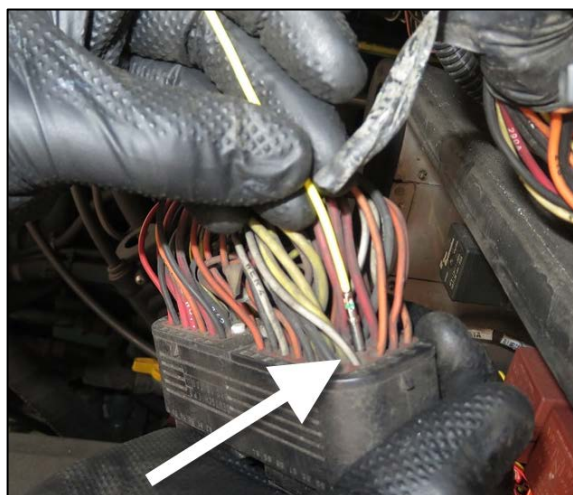

Figure 29
54. Install the extended spare wire to female connector C21 (Figure 29).